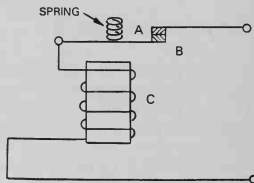

Fig. 9-9. A schematic diagram of a circuit breaker.
Another similar application is drawn in Fig. 9-9. Here the coil (C) is in series with the points (B). This is a kind of circuit protective device. As long as the current flowing in the circuit is within safe limits the magnetic force of coil (C) will not overcome the tension of spring (S). If the current exceeds a specified value, armature A will be pulled down and then points B will open thus breaking the circuit. The device is so arranged that points B must be manually closed before operation of the circuit can be resumed.